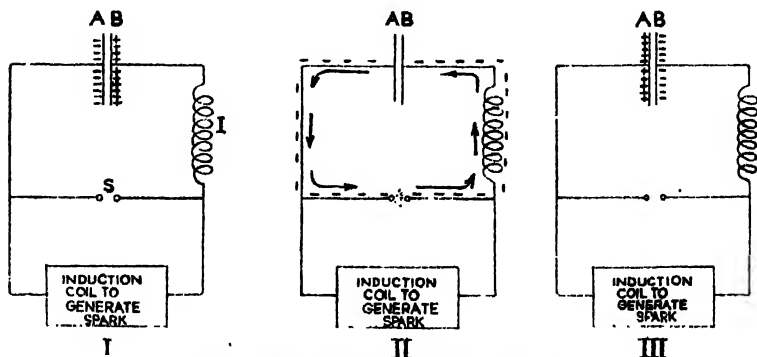

FIG. 316.—The old-fashioned spark-transmitter.
The principle on which wireless waves are generated is to set electrons surging back and forth in a wire, the aerial; the number of times they swing along the wire every second can be altered in various ways. As we have already seen on p. 422, an electric charge moving back and forth will cause an electromagnetic wave of the same frequency (speed of vibration) as the motion of the charge. The simplest device which can make an electron rush backwards and forwards from 30,000 to 3,000,000 times a second, is the old-fashioned spark transmitter. Fig. 316 shows it in a very simple form. Wireless waves are generated by an electron moving back and forth along a wire. The frequency of the wave depends on the time of travel.
into the left-hand side of the apparatus and draws them out of the right-hand one. The attraction of the positively charged plate (B) of the condenser assembles a great multitude of electrons on the negative plate (A) (Fig. 316, I). As the electrons accumulate on the left, a time comes when their mutual repulsion is too great and they leap the spark gap and rush round the wire to B. (Fig. 316, II). But, just like a pendulum falling, they over-reach themselves and pile up at B. (Fig. 316, III). They then repel each other as badly as before and so rush back across the spark gap to A. The electrons thus rush back and forth along the wire and, in doing so, will generate a wave. Now the frequency of this wave will depend on the number of journeys the electron will do each second: i.e., on the time they take for each journey from A to B.